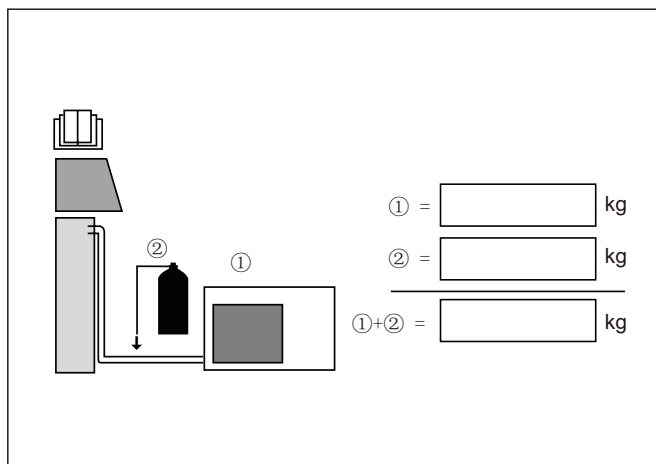

Figure 68
- Connect gauges to refrigerant bottle and unit as illustrated (Figure 68).